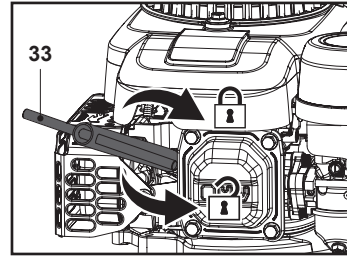

Fig. 25
2. Loosen the spark plug (17a) anti-clockwise using the spark plug wrench (33) and remove it carefully (Fig. 25).